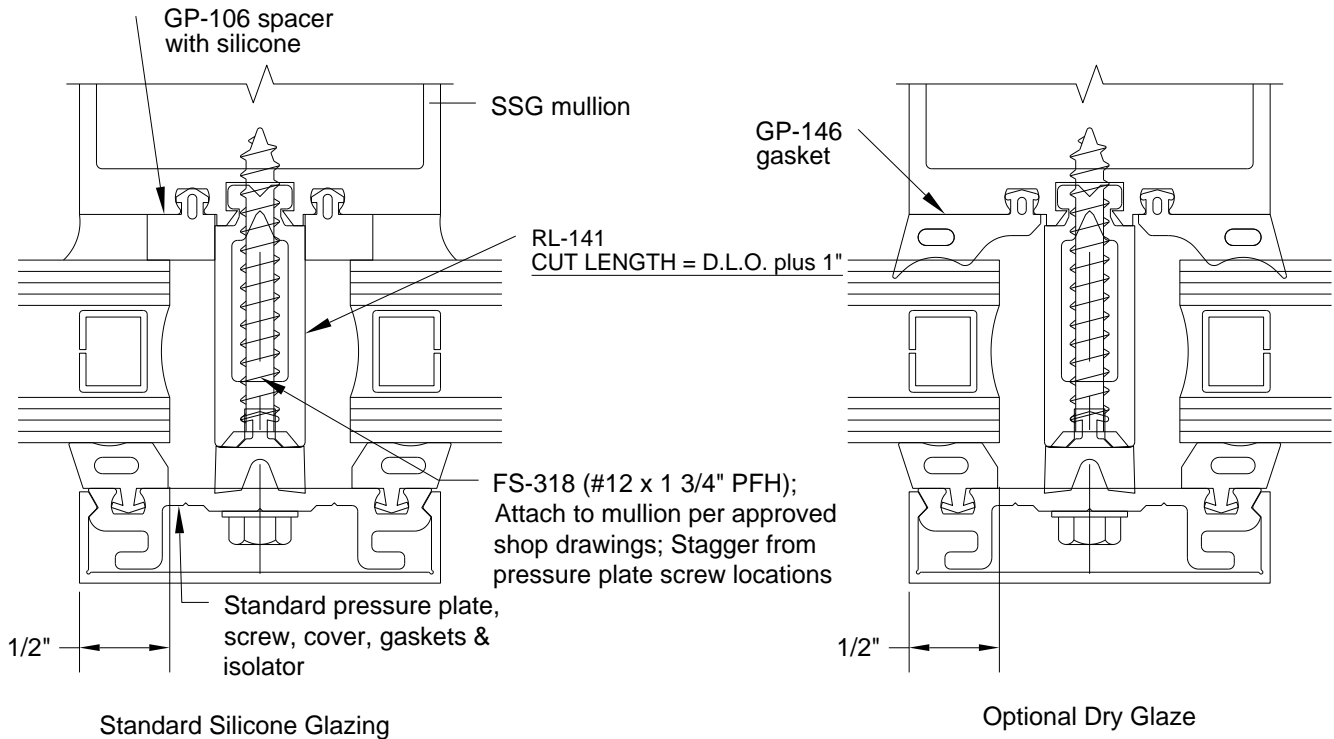

Figure 37: Captured Glazing Adapter for SSG Mullion
- 15.2 The RL-141 adapter will be attached to mullion with a FS-318 fastener. Location and spacing will be determined by Engineer's review. See *Figure 37*.